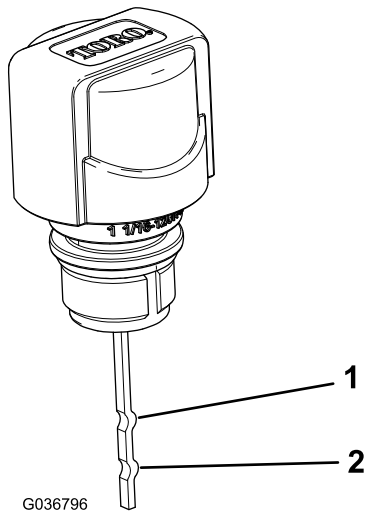

Figure 22
**Note:** The fluid level should be between the upper limit and the lower limit on the dipstick (Figure 22).